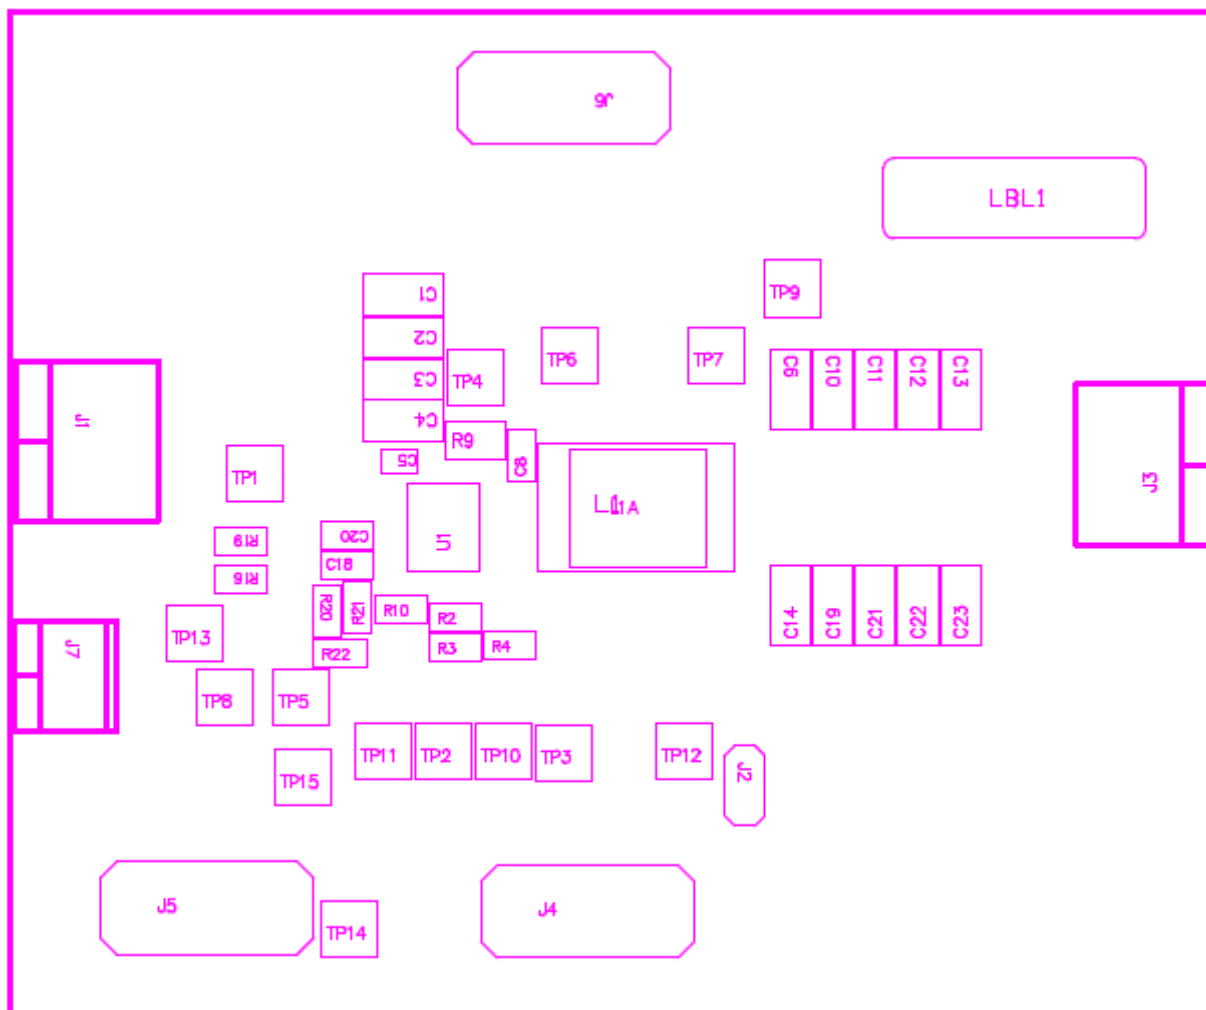

**Figure 5-1. Tip and Barrel Measurement for Output Voltage Ripple**
- Oscilloscope** A digital or analog oscilloscope measures the output ripple. The oscilloscope must be set for the following: 1-M $\Omega$  impedance, 20-MHz bandwidth, AC coupling, 1- $\mu$ s per division horizontal resolution, 20-mV per division vertical resolution. Test points TP7 and TP9 measure the output ripple voltage by placing the oscilloscope probe tip through TP7 and holding the ground barrel on TP9 as shown in Figure 5-1. Using a leaded ground connection can induce additional noise due to the large ground loop.